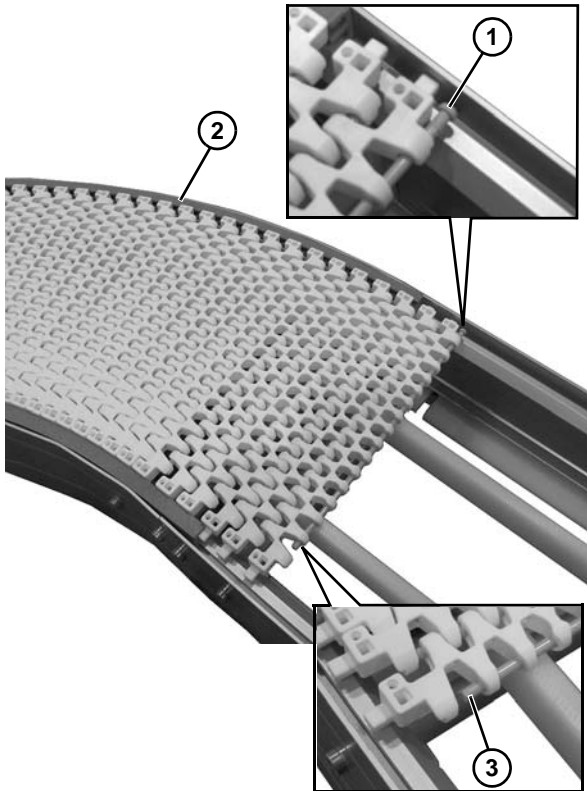

Figure 14
2. Orient the belt direction such that the pin heads (Figure 14, item 1) are on the outside of the belt radius (Figure 14, item 2). The straight portion on the pin (Figure 14, item 3) will be on the inside radius.